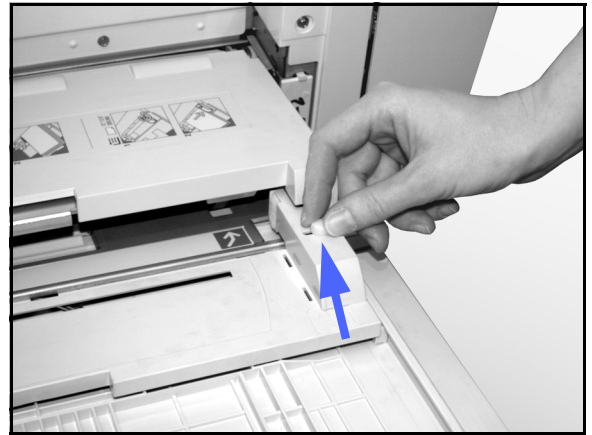

Figure 14: Front Paper Guide and registration thumb screw
1. Unscrew the registration thumb screw, illustrated in Figure 14, on the front side of Paper Tray 5.